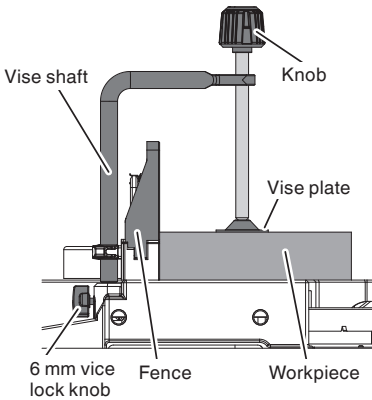

Fig. 18
- (1) The vise assembly can be mounted on the base, secure in place with 6 mm vice lock knob.
- (2) Turn the upper knob and securely fix the workpiece in position (Fig. 18).